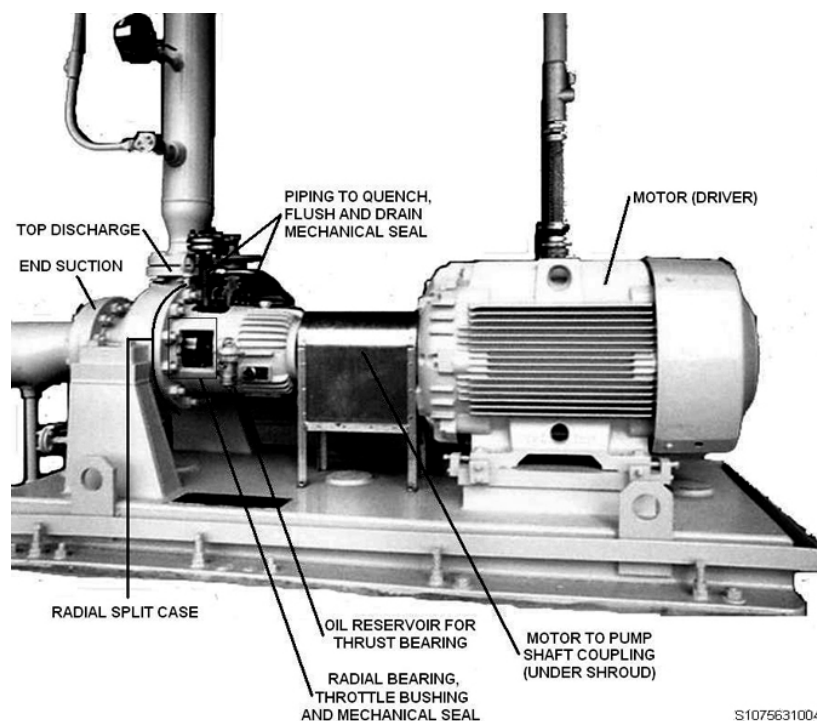

Figure 3-19. API 610 pump.
The API 610 pump is the newest centrifugal pump standard used by the AF in fuel systems. The API 610 pump is not a single style or type of centrifugal pump. But it can be several various pumps made by different manufacturers that adhere to the guidelines set forth in the API Standard (Std) 610 (and International Organization for Standardization [ISO]) 13709: 2009), *Centrifugal Pumps for Petroleum, Petrochemical and Natural Gas Industries*. The three types are: (1) *overhung*, (2) *between bearings*, and (3) *vertically suspended*. The different styles and specification of the three types can be found in API Std 610. The most common type API 610 pump used in AF fuel systems is the overhung type centrifugal, single-stage, horizontally mounted, radial-split case, enclosed impeller, double volute case, with end suction and top discharge as seen in figure 3-19. The pump is designed to permit removal of the impeller, shaft, bearings, and bearing housing as an assembly, without disconnecting the suction or discharge piping. The pump case is designed for 275 psi maximum operating pressure.